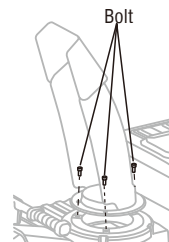

Fig. 3B
2. Fix the snow discharge guide onto the base with 3 bolts. (Fig.3B)